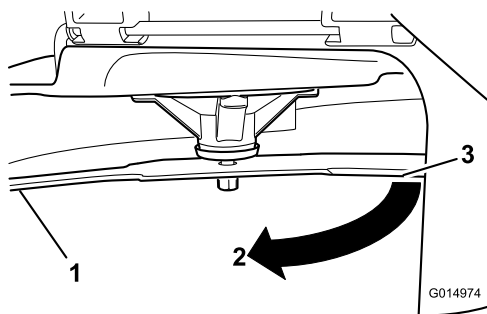

Figure 57
3. Measured distance between blade and the surface (A)
4. Rotate the same blade 180 degrees so that the opposing cutting edge is now in the same position (Figure 57).